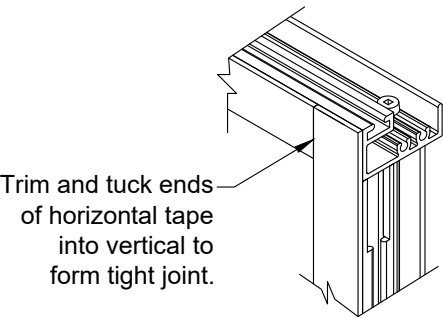

FIGURE 9
- 2.6 Vertical tape is run through at corners. Tape will be tucked into the corner to form a tight joint. SEE FIGURE 9